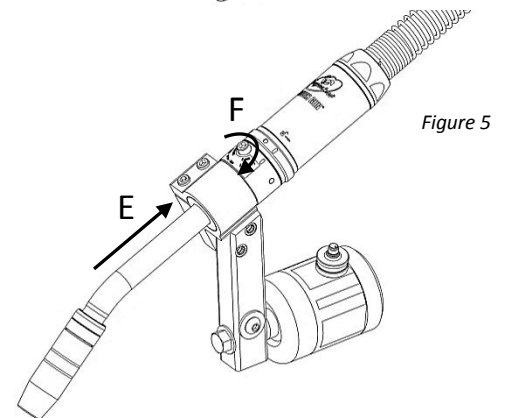

Figure 5
8. Line up the key of the neck with the keyway in the uncable connector and install as shown in 'E' of *Figure 5*.
9. Tighten the neck clamp SHCS using a 5 mm Allen Wrench (see 'F' in *Figure 5*).